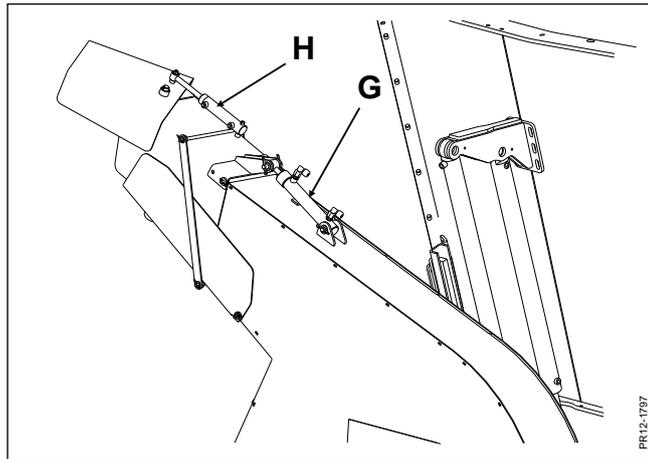

Fig. 2-7
- Fig. 2-7** 3) The chute is adjusted with the joystick (5).